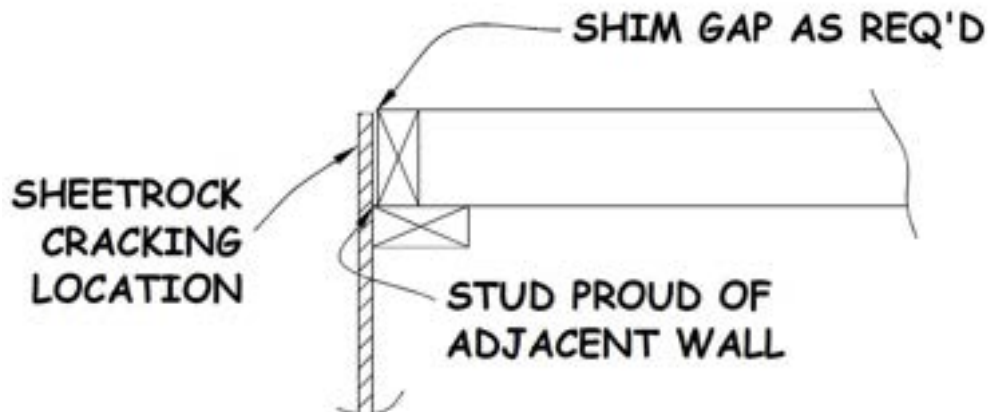

Figure 14-4. Proud Outside Corner Stud.
10. Outside corners of intersecting walls should be flush. If one corner stud is proud of the intersecting corner stud, a gap results at the corner (see Figure 14-4). To rectify, verify the problem and close the gap with cardboard shims **before securing** the sheetrock.